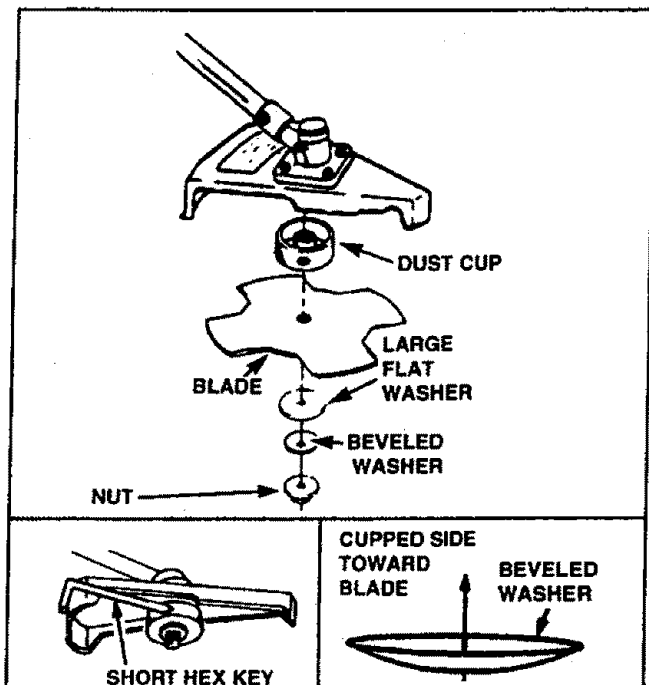

Figure 8
WEED BLADE ASSEMBLY (Fig. 8)
- Install the large flat washer, beveled washer and flanged hex nut as shown. Be sure beveled washer is installed as shown in Figure 8 (inset).